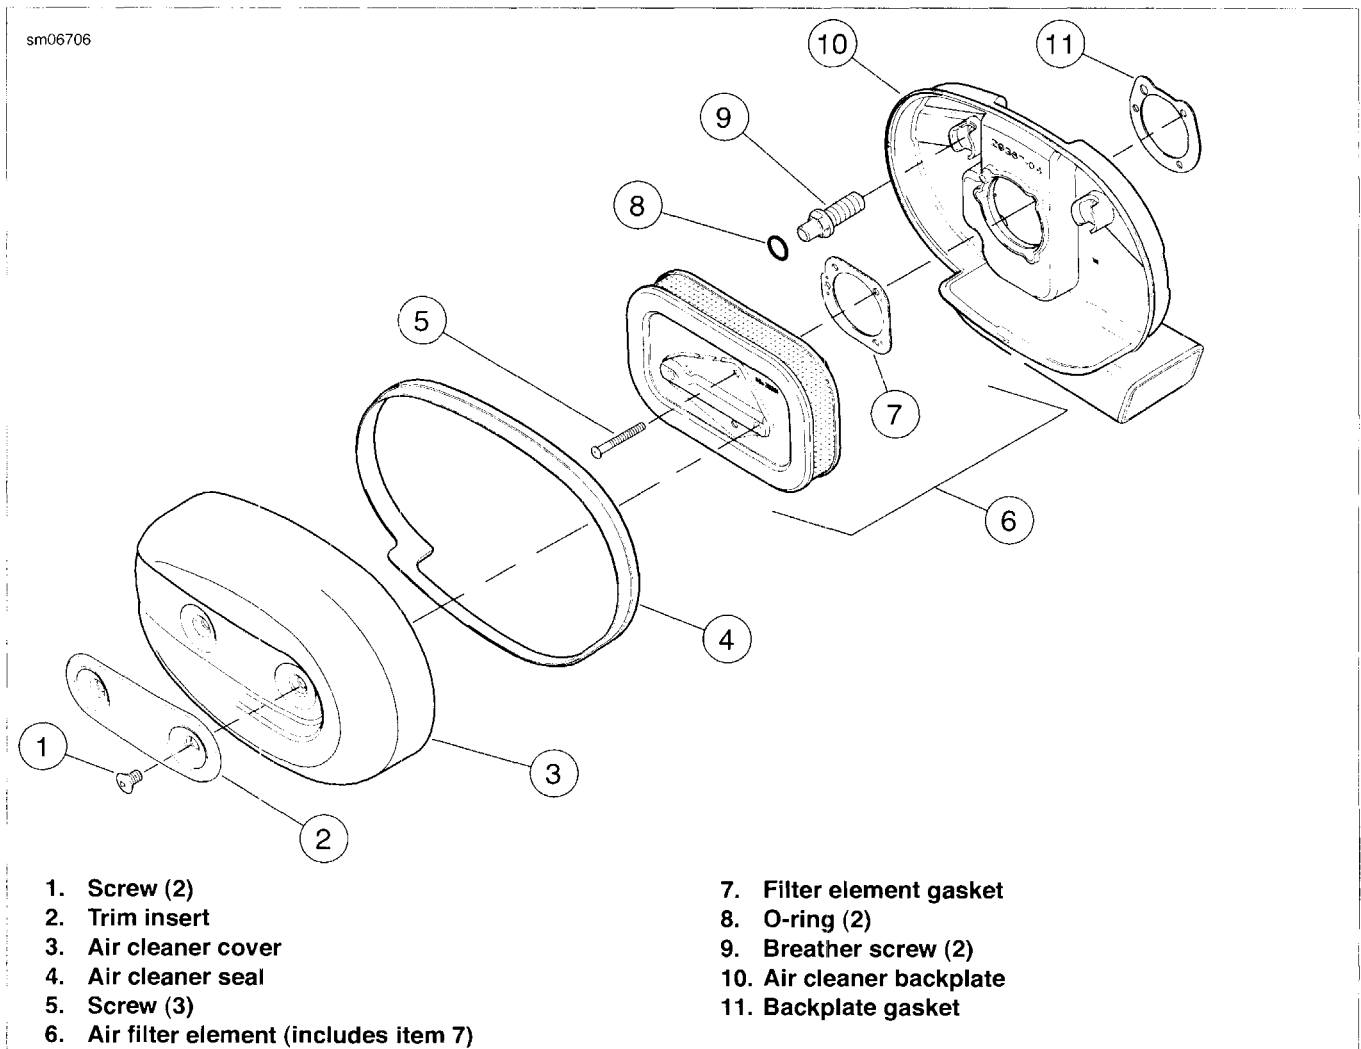

Figure 4-1. Air Cleaner Assembly
1. See Figure 4-1. Remove two screws (1) and trim insert (2) from air cleaner cover (3).
2. Remove air cleaner cover from air cleaner backplate (10). Remove air cleaner seal (4) from air cleaner cover.
3. Remove three screws (5). Remove air filter element (6) and gasket (7) from air cleaner backplate. Discard gasket. If filter element is being removed for cleaning only, proceed to 4.3 AIR CLEANER: XL MODELS, Cleaning, Inspection and Repair which follows.
1. See Figure 4-1. Thoroughly clean air cleaner backplate (10) and inside of air cleaner cover (3).
2. If air filter element (6) is damaged or if filter media cannot be adequately cleaned, replace element and proceed to step 6.
1. See Figure 4-1. Position **new** gasket (11) and air cleaner backplate (10) at induction module air inlet.
2. Obtain **new** breather screws (9) or apply LOCTITE THREADLOCKER 243 to existing screws. Secure air cleaner backplate to engine heads. Tighten to 84-120 **in-lbs** (9.5-13.6 Nm).
3. Apply a thin coat of engine oil or light grease to O-rings (8). This will help prevent them from being damaged when air filter element is installed.
4. Position **new** gasket (7) on air cleaner backplate. Make sure gasket holes are lined up with backplate holes.
5. Install air filter element (6) onto backplate. Secure with three **new** screws (5) or apply LOCTITE THREADLOCKER 243 to existing screws. Tighten to 40-60 **in-lbs** (4.5-6.8 Nm).
6. Install air cleaner seal (4) on air cleaner cover (3). For proper sealing, make sure air cleaner seal covers the entire edge of the air cleaner cover.
8. Install trim insert (2), and secure insert and air cleaner cover with two screws (1). Tighten to 36-60 **in-lbs** (4.1-6.8 Nm).